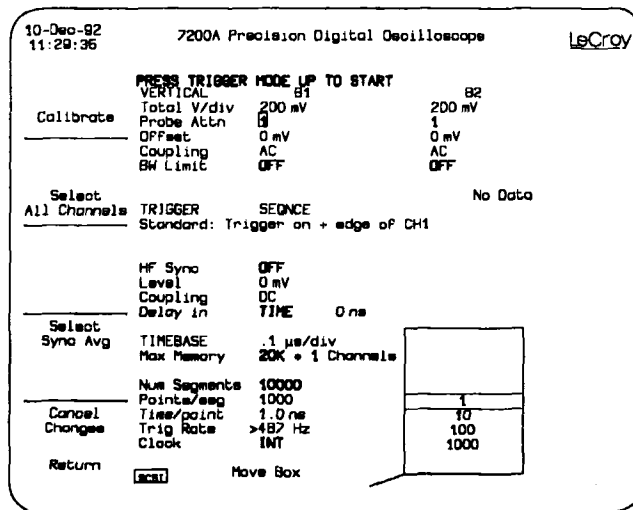

Figure F-4
(4) On the 7200A, press "Trigger Mode Up" button until SEQ is selected and define the sequence mode acquisition parameters (Time/div, number of segments, points/segment, etc) thru the PLUGIN STATUS menu (refer to figure F-4). For this test the number of segments should be small (eg. 10) and the number of points per segment should also be small (eg. 1000). Next, set the Data Destination field in the Acquisition Setup screen to SCSI (refer to figure F-2).
(5) Press the Trigger Mode Up button again, the plugin will be armed, and the preamble information will be sent over the SCSI port (waveform descriptors for all active channels). Data transfer begins as soon as the plugin receives a trigger. Data acquisition will continue until the defined number of segments have been collected. To terminate the transfer before all segments have been acquired, press the "TRIGGER MODE UP" button. This will terminate transfers after the current segment is sent. Alternatively any key pressed on the PC will terminate "ACQUIRE" but leave the 7200A in a retry state looking for a host.
(6) To process the captured data, run the SEQTRAN program (see below). This program, in conjunction with PLOT or your favorite graph program, will allow you to view the segments on your computer. Should you wish to send the data back into the 7200A for viewing/processing, select the file output option. The file may be copied onto a floppy and read into the 7200A.